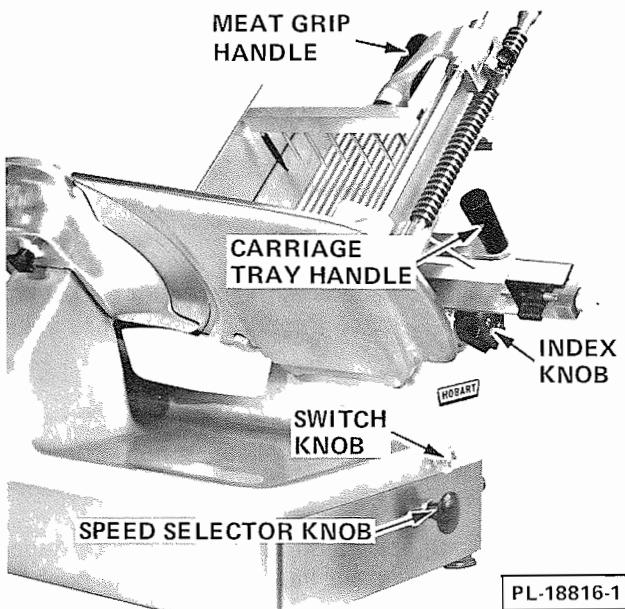
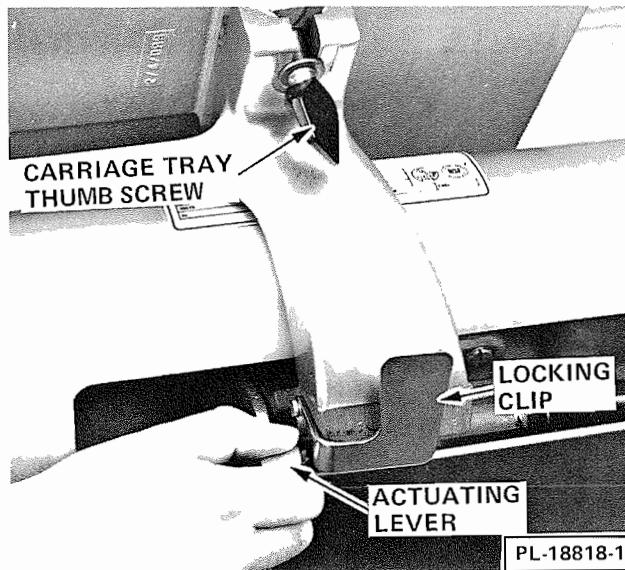

Fig. 10
Fig. 12
Adjust the gauge plate to obtain the desired slice thickness by turning the index knob (Fig. 10). The numbers on the index knob do not indicate actual measurements but may be used for reference to duplicate slice thicknesses.
**For manual slicing**, push the carriage back and forth using either the carriage tray handle or the meat grip handle (Fig. 10).
Pull the carriage to the end of its travel and engage the driving unit by lifting the actuating lever (Fig. 12) to its locked position. Make sure the speed selector knob (Fig. 10) is set in, pull the switch knob (Fig. 10), and gently push the carriage to begin automatic slicing.
To disengage the driving unit, push the locking clip (Fig. 12) when the carriage is nearing the operator end of its travel. Always leave the driving unit in low speed (knob pushed in) when the slicer is not operating automatically.
To use the optional food chute, loosen the carriage tray thumb screw (Fig. 12) and carefully remove the carriage tray. Position the food chute on the carriage support and secure it by tightening the thumb screw. The pusher plate is provided with the food chute to force-feed products when necessary.